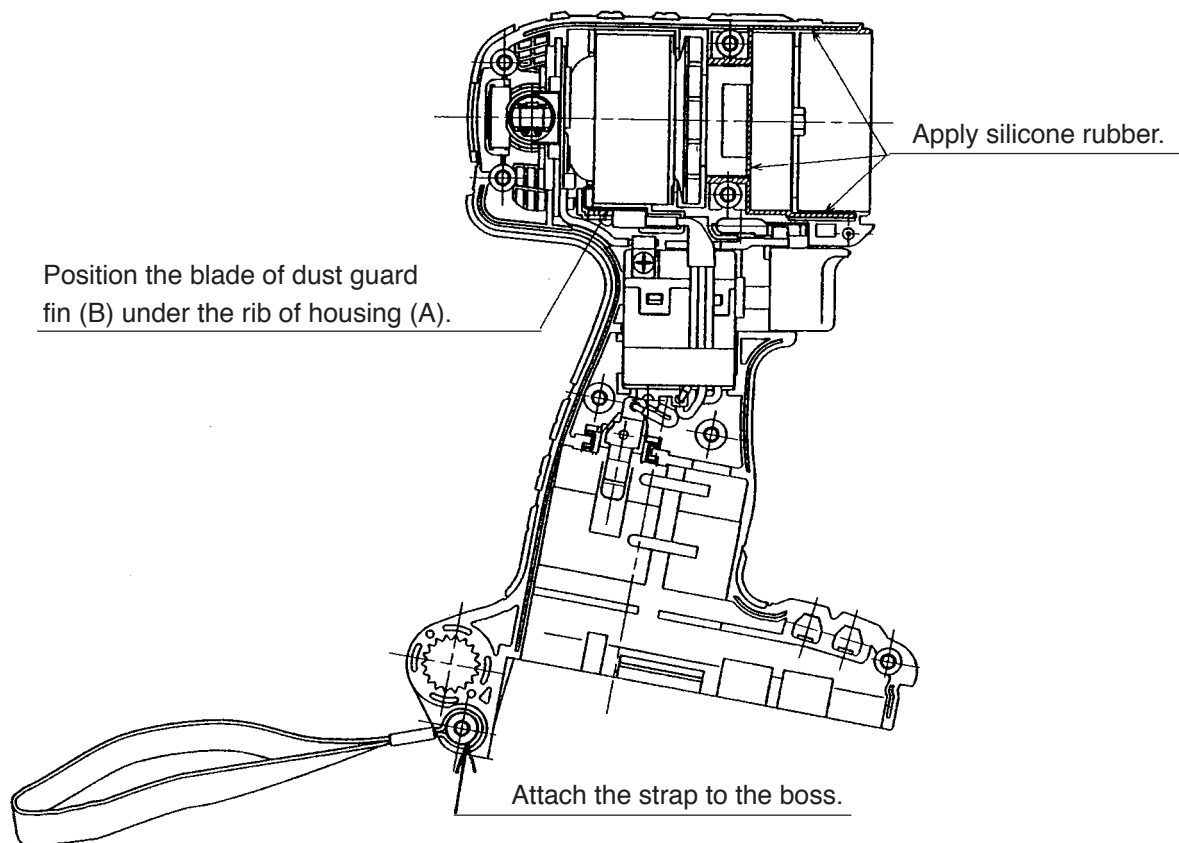

Fig. 17
NOTE: (1) The temperature of the FET may be high if the silicone grease is not applied. Make sure that the three internal wires from the FET are passed above the DC-Speed Control Switch [38] <35> (see Fig. 17).
(2) If there is no plating and a black oxide is formed on the terminal support where the battery contacts, replace the terminal support with new one (Code No. 323710).
(f) Apply silicone rubber (ThreeBond 1211) to housing (A) and Inner Cover (B) [25] <22> as illustrated in Fig. 17. Attach the strap to the boss as shown in Fig. 17, then mount housing (B) and tighten the eight Tapping Screws (W/Flange) D4 x 20 [33] <30>. Wipe off silicone rubber protruded from the housing with a cloth.